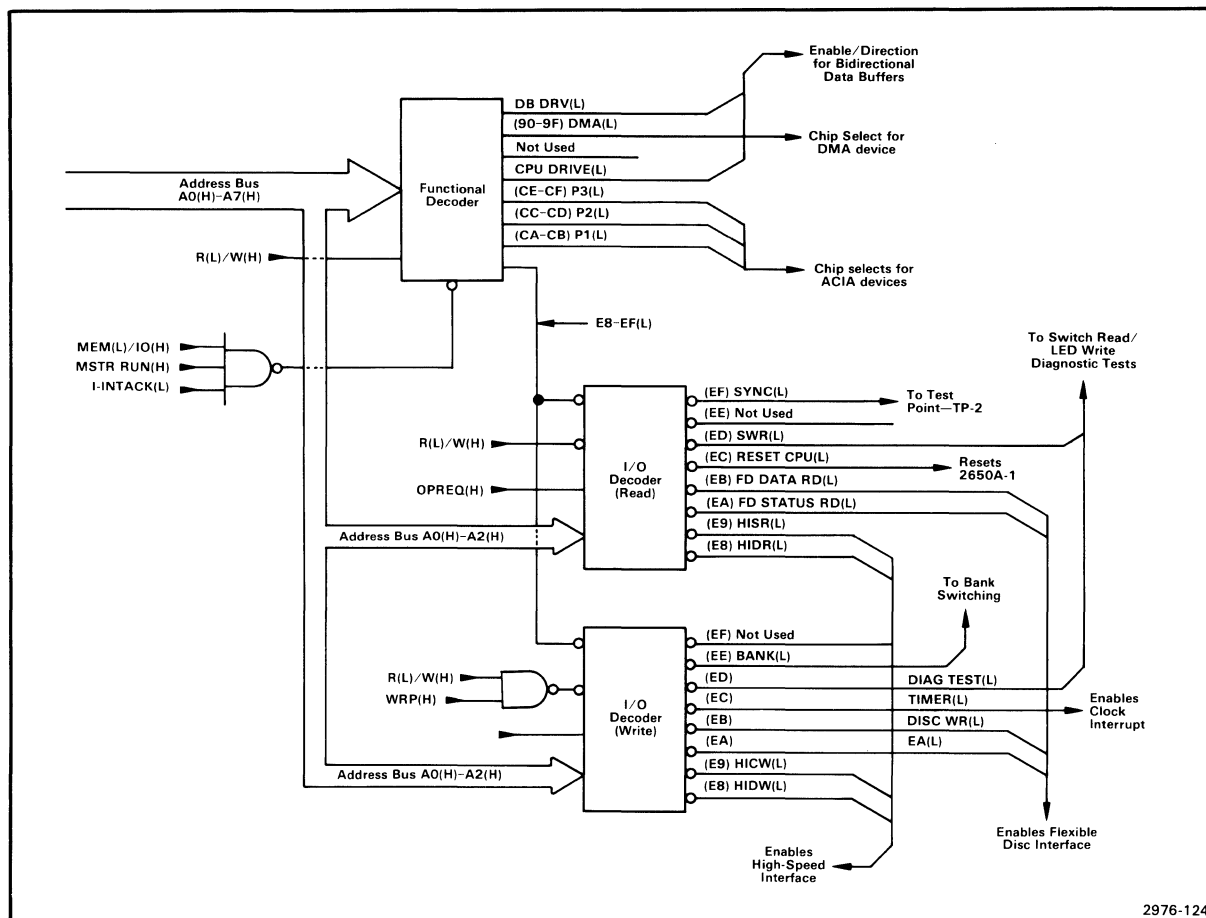

Fig. 9-5. Functional and I/O decoders block diagram.
I/O port addresses for the System Controller board are decoded in a functional decoder and two I/O decoders; one for read operations and one for write operations. Figure 9-5 is a simplified block diagram of these decoders.
The functional decoder utilizes a 74S472-type device (PROM) as a decoder. This decoder is enabled when all of the following conditions are met: (Refer to Fig. 9-5.)
When enabled, the functional decoder decodes the following I/O port addresses from the address bus during either a read or write operation. (Refer to Fig. 9-5.)
- 90 through 9F      Any of these I/O port addresses sets control line DMA(L) low, enabling the DMA device.
- CA and CB          These I/O port addresses set control line P1(L) low, enabling the remote communications port ACIA.
- CC and CD          These I/O port addresses set control line P2(L) low, enabling the auxiliary port ACIA.
- CE and CF          These I/O port addresses set control line P3(L) low, enabling the system terminal ACIA.
- E8 through EF      Any of these I/O port addresses sets control line E8---EF(L) low, enabling one of the enabling inputs to each I/O decoders. Each I/O decoder has three enabling inputs. The other two inputs are discussed later in this section.
Table 9-4 shows the states of the enabling control lines, the I/O port addresses, and the output control lines for the functional decoder. Note in Fig. 9-5, there are two other output lines from the functional decoder, DB DRV(L) and CPU DRIVE(L). These control lines are used to set the direction of data flow through the data bus directional and bidirectional buffers. This permits the system processor to be selective during read operations, and to read only the unique data buses and/or the system data bus.
The two I/O decoders are shown in Fig. 9-5. One decoder activates control lines during a read operation and the other decoder activates control lines during a write operation. As previously discussed, I/O port addresses E8---EF set the functional decoder output control line, E8---EF(L), low. This control line, E8---EF(L), is one of three enabling inputs to each of the I/O decoders.